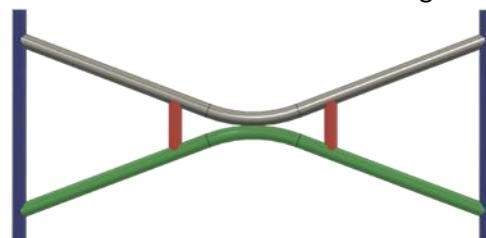

Figure 10
- C. If the two door bars do not intersect as they do when forming an "X", then a minimum of two vertical tube sections shall connect the upper and lower door bars. Refer to Figure 10.